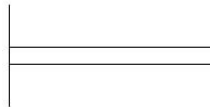

FIGURE 7.33: The result of the modifications to the win-1 block
8. Use the Offset command to offset the glazing line 0.5" up and down. Then erase the original horizontal line (see Figure 7.33). This window block now has double glazing.
7. Use the Offset command to offset the glazing line 0.5" up and down. Then erase the original horizontal line (see Figure 7.33, shown earlier). This window now has double glazing.